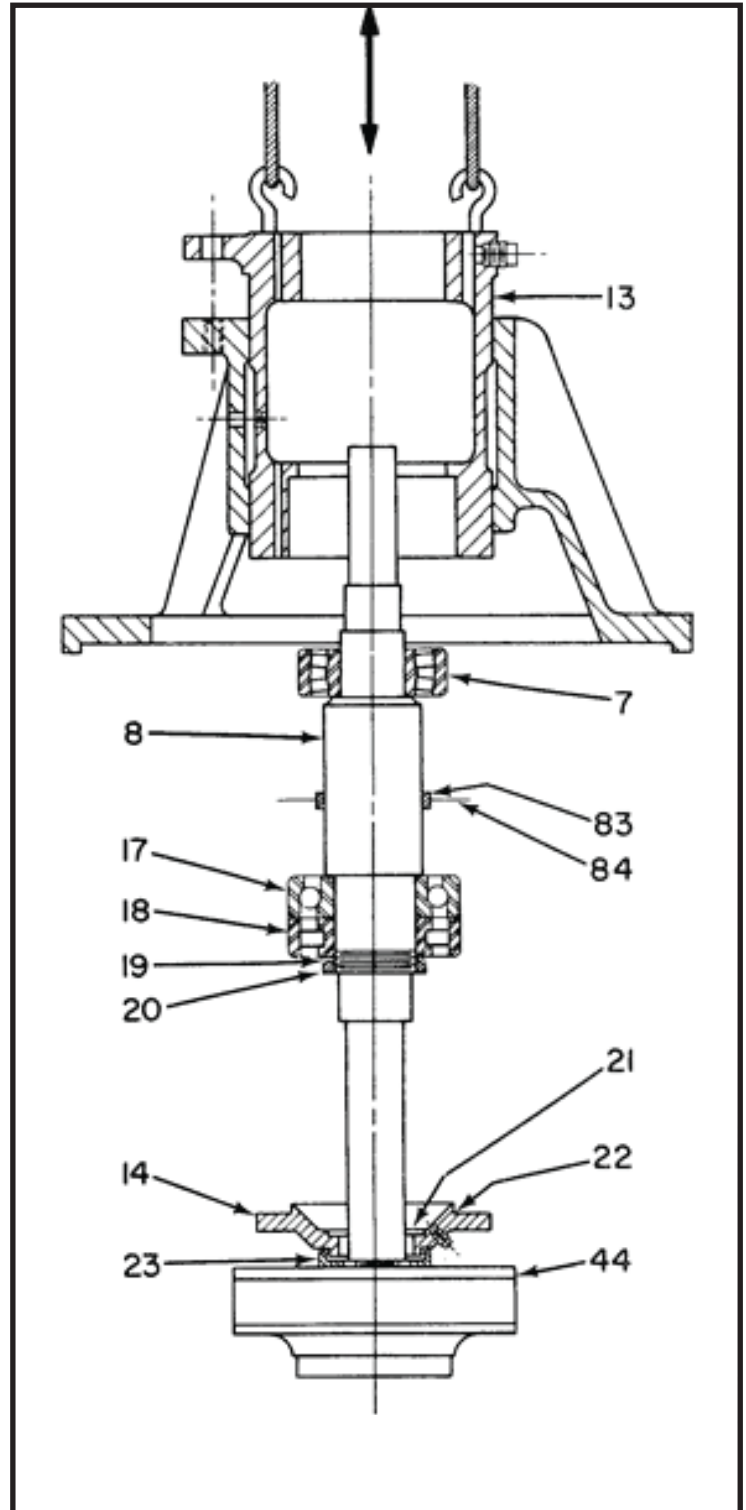

Figure 8. Front Liner Assembly
**NOTE: Study Figure 8 showing recommended method of handling frame assembly during the dismantling and assembly operations. Using the impeller as a stand, the frame with frame liner maybe lifted vertically with hooks as shown.**
**NOTE: Study Figure 8 showing recommended method of handling frame assembly during the assembly operation.**
- f. Lower frame and liner over shaft and bearings per Figure 8. Proceed slowly and notice that as slingers enter the frame liner they must deflect and spring back into place when they reach the centre of the bearing cavity. With a spherical roller bearing, it may be necessary to guide it into the fit in the liner. Note the outer race from an old bearing serves as an ideal tool if placed into the liner at this time. You may slide it down in the fit until it contacts the upper shaft bearing. By tapping lightly on this "tool" you can square up the bearing race and it will enter to fit easily. Continue to lower frame and liner until the liner rests solidly against the lower bearing outer race.